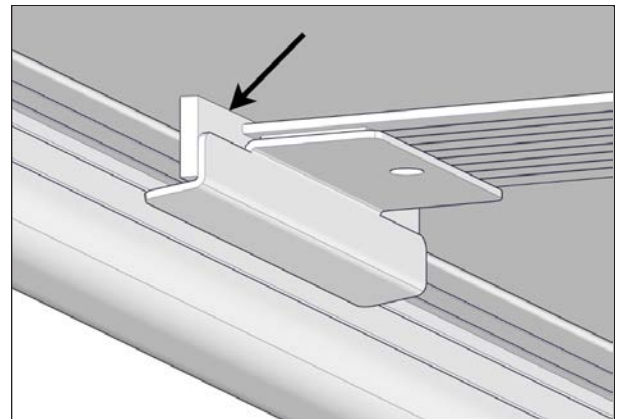

FIGURE 58: FINAL POSITION OF THE WIPER
At the final position of the wiper, the flap must touch the edge of the I-beam, see Figure 58.
4. Stick the wiper bracket on the middle of the I-beam by holding it in place and maintaining pressure for at least 60 seconds. This ensures a proper bond to the I-beam. Make sure you install the wiper flap at the edge of the I-beam directly into the gap between the I-beam and the C-channel, see Figure 58.